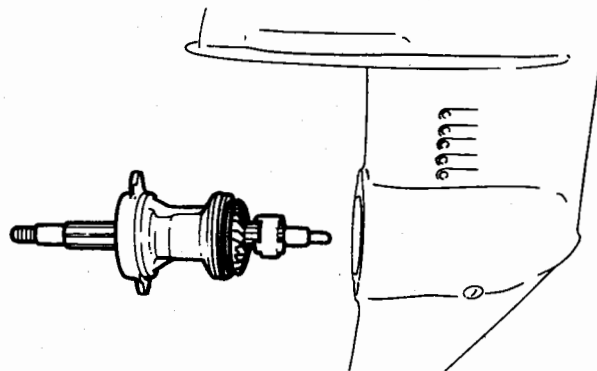

Fig.10.4
2. Remove the propeller shaft housing, propeller shaft and bevel gear C by removing propeller shaft housing bolts (H620-2). (Fig.10.4)